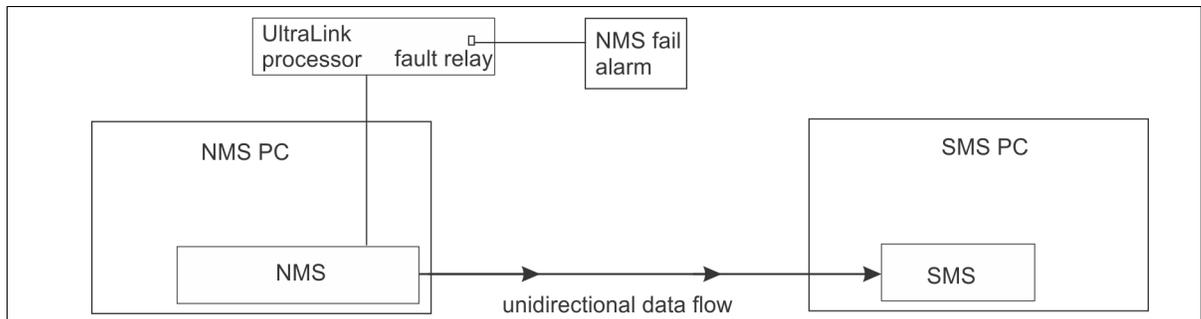

Figure 9 Hardware NMS fail indication
- The hardware solution uses an UltraLink I/O processor on a Silver Network to monitor the health of the NMS. The UltraLink's fault relay is activated by an NMS failure. The fault relay must be connected to an input on the SMS or to another annunciator. Figure 9 illustrates the hardware method of NMS fail detection.